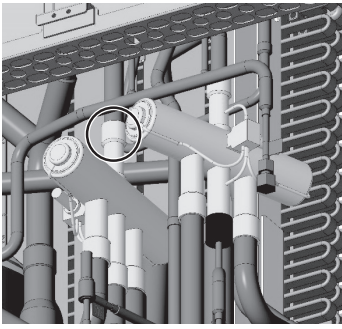

Figure 6
(5) Remove the braze from above the four-way valve (21S4a). (Debrazing: 1 place, Figure 6)